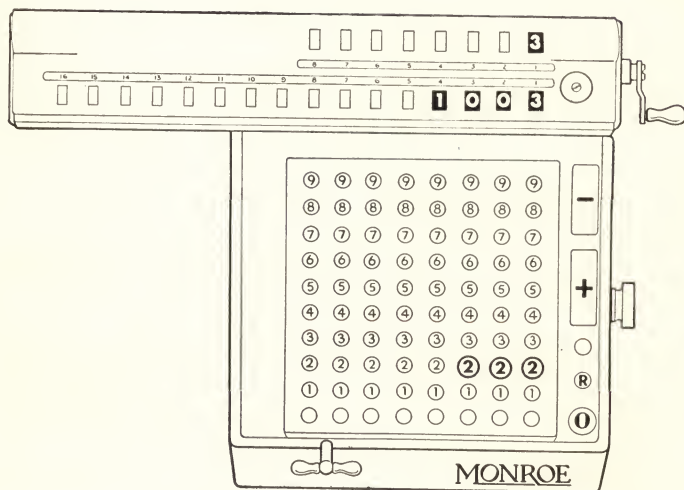

Figure 2
*Step 3*—Change keyboard set-up to 222. Depress the plus bar once and the final result, 1003, appears in the lower dials as shown in Figure 2. The upper dials show 3 indicating the number of items added. When more than 9 items are added the upper dials figure is disregarded.